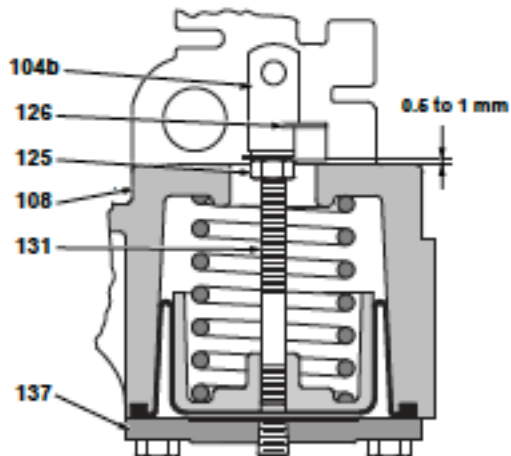

Figure 14 - Piston rod clevis (104b) adjustment
4.1.1 Adjusting the piston rod clevis on the VariPak 28001 single-lever valve (Figures 14 and 26)
4.1.2 Adjusting the piston rod clevis on the VariPak 28002 adjustable-C_v valve (Figures 14 and 27)